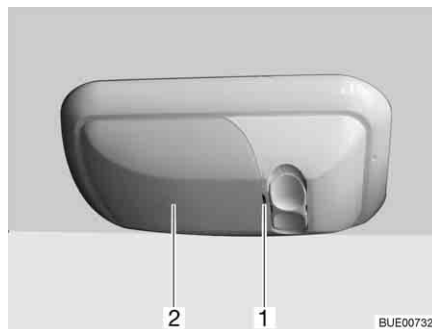

Fig. 232 Garage light
- Use a suitable tool (e.g. a screwdriver) to carefully lever out the cover (Fig. 232,2) at the notch (Fig. 232,1) and remove it.